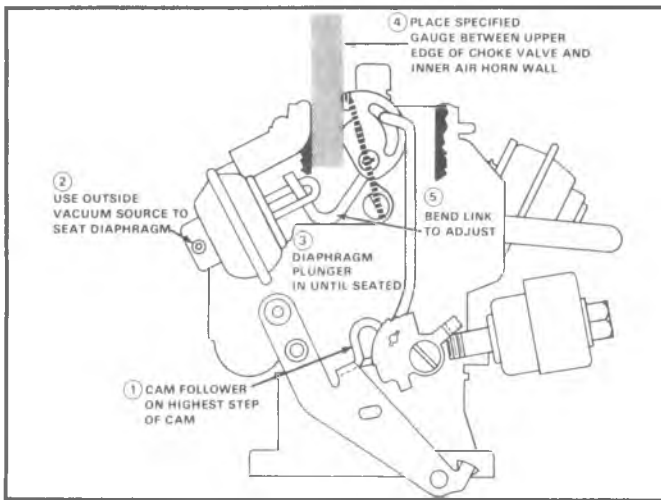

Fig. 15—Auxiliary Vacuum Break Adjustment
**AUXILIARY VACUUM BREAK ADJUSTMENT (Fig. 15)**